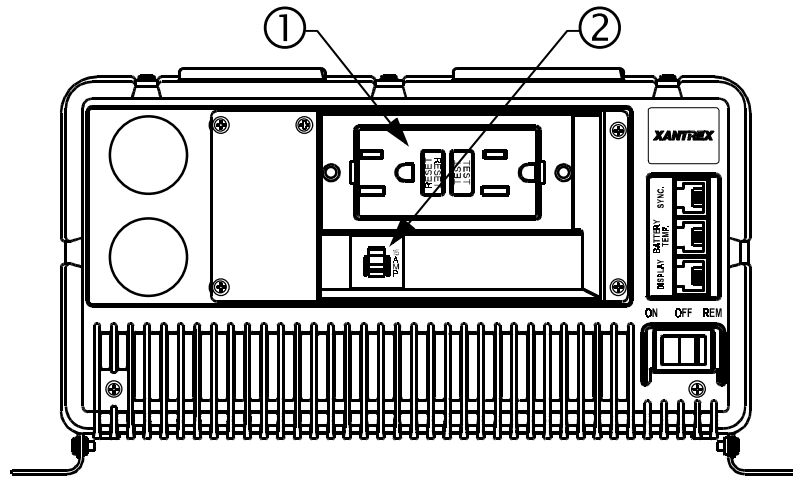

Figure 3 Panel Equipped With GFCI and Circuit Protector
- Panel equipped with 15A GFCI receptacle and one hardwire output circuit. See Figure 3.